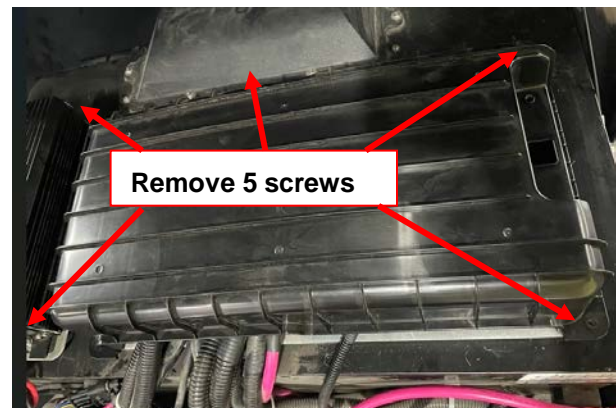

Figure 9
3. Remove 5 screws that are used to fix Controller cover (Figure 9).